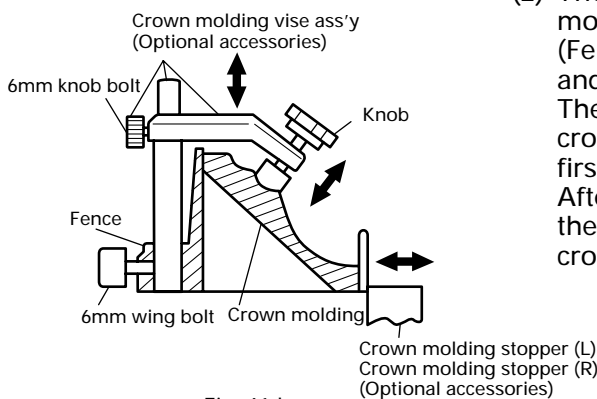

Fig. 41-b
- (1) Crown molding Stopper (L) and (R) (optional accessories) allow easier cuts of crown molding without tilting the saw blade. Install them in the base both-sides side to be shown in Fig. 41-a. After inserting Tighten the 6mm wing bolts to secure the crown molding Stoppers.